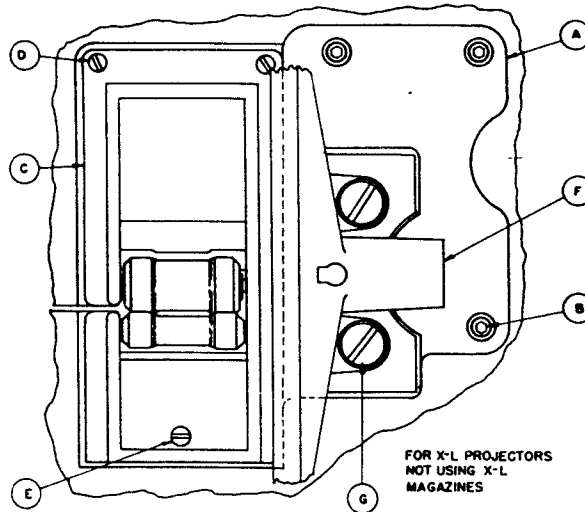

FIGURE 1-10
c. Other Types of Magazines (See figure 1-10.)
With the exception that Massachusetts requires the use of Kit G-2183, one G-2108 Magazine Adapter Kit is required per projector. The letters in figure 1-10 refer to similar letters in parentheses in the following installation procedure: